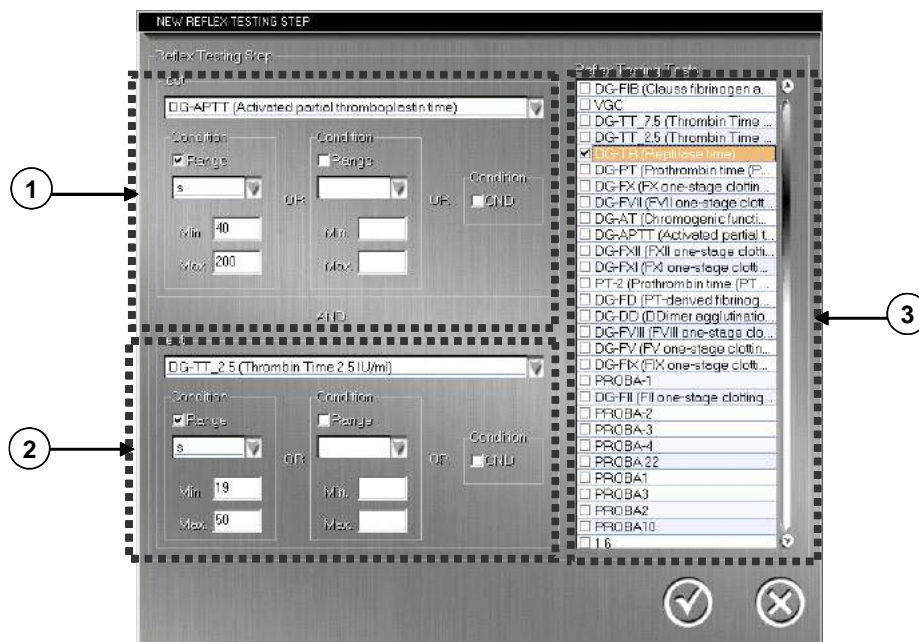

Figure 9.34. New Reflex Testing Step Window
- Then, press the **New Step** button. The program displays the **New Reflex Testing Step** window (Figure 9.34) to enter the Reflex Testing step and its conditions.
- (1) Information on **Test 1**: The drop-down menu allows the Operator to select:
- (2) Information on **Test 2**: Through the logical operator **AND**, the program allows **conditions** for a second test to be added to the conditions of the first test.
- (3) **Reflex Testing Tests**: List with the possible tests for Reflex Testing if the conditions established for **Test 1** and for **Test 2**, if any, are fulfilled.
- It is possible to add a second Reflex Testing step to an existing one by selecting the desired Reflex Testing, pressing the  button and selecting the **New Step** option. The program again displays the window indicated in Figure 9.34 where, on the drop-down menus for tests, the tests